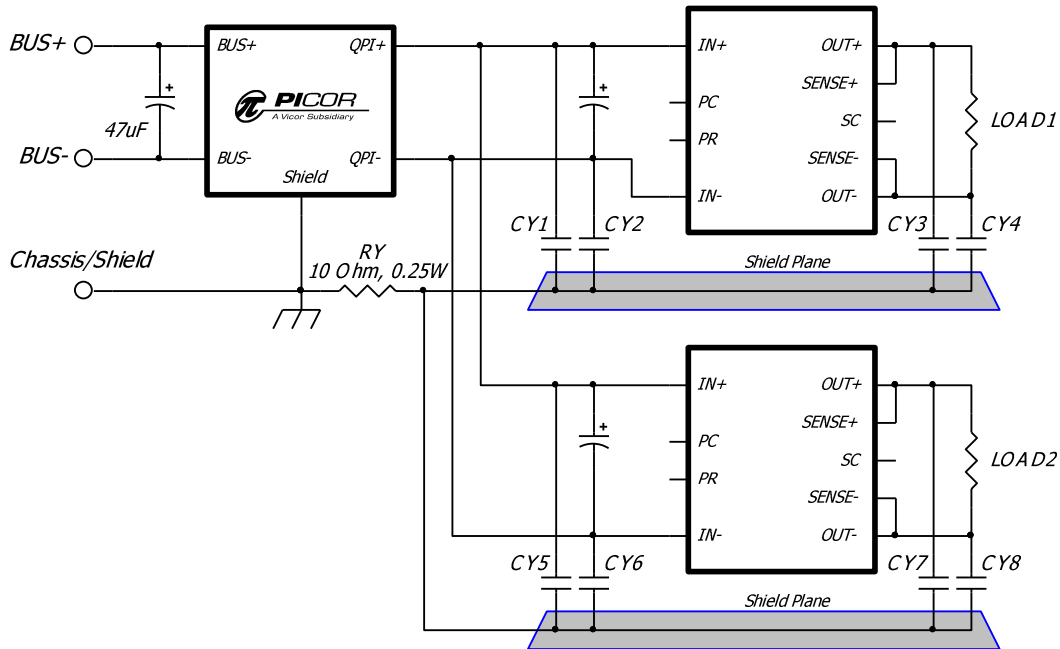

**Figure 10** - Current de-rating and power dissipation over ambient temperature range.
- -40° to +125°C Ambient temperature (see Figure 10)
Note 2: See Figure 10 for the current de-rating curve.
The de-rating curve in Figure 10 is based on the maximum allowable internal component temperature and the 7 A maximum rating of the QPI-3. The power dissipation curve is based on the current squared multiplied by the internal